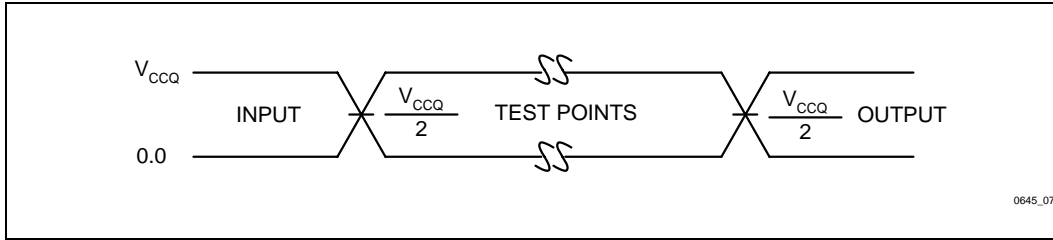

Figure 5. Input/Output Reference Waveform
4. See Figure 5: *Input/Output Reference Waveform* for timing measurements and maximum allowable input slew rate.
5. See Figure 5: *Input/Output Reference Waveform* for timing measurements and maximum allowable input slew rate.